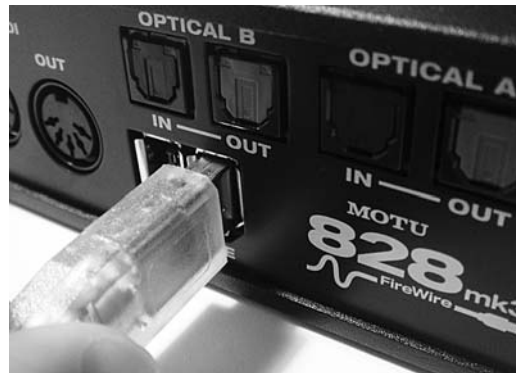

Figure 3-1: Connecting the 828mk3 to the computer.
**1** Plug one end of the 828mk3 FireWire cable (included) into the FireWire socket on the computer as shown below in Figure 3-1.
**2** Plug the other end of the FireWire cable into the 828mk3 I/O as shown below in Figure 3-1.